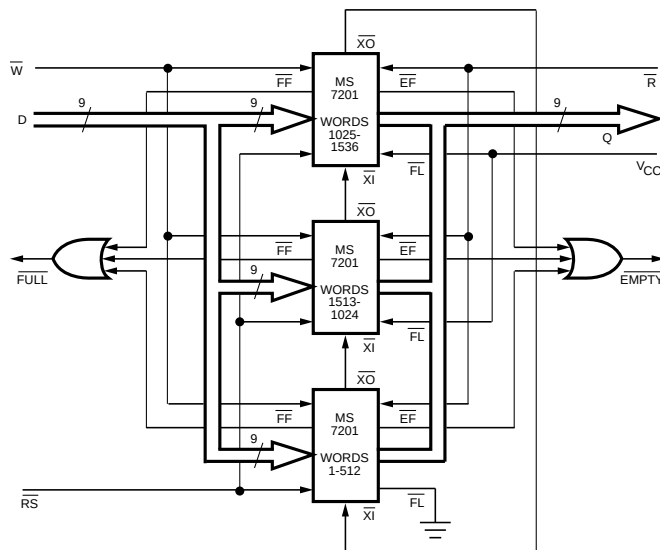

Figure 5. Diagram of a 1536 x 9 FIFO in Depth Expansion Mode
3. The EXPANSION OUT ($\overline{XO}$) pin of each device must be connected to the EXPANSION IN ($\overline{XI}$) pin of the next device as shown in Figure 5.